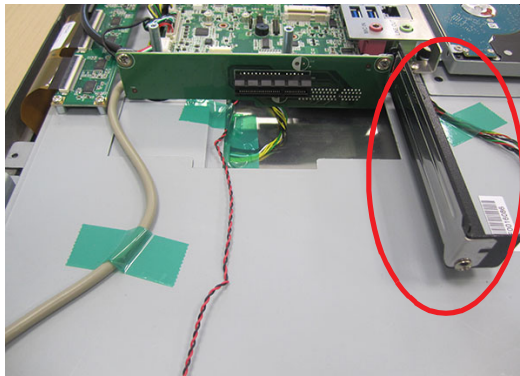

Figure 2.32
1. Refer to Section 2.3 to open the rear cover and remove the reinforcement plate. Remove the screws and shield circled in red in Figure 2.32.
3. The device is equipped with a PCIe x4 riser card (PCM-939) as a default (see Figures 2.32 and 2.33).